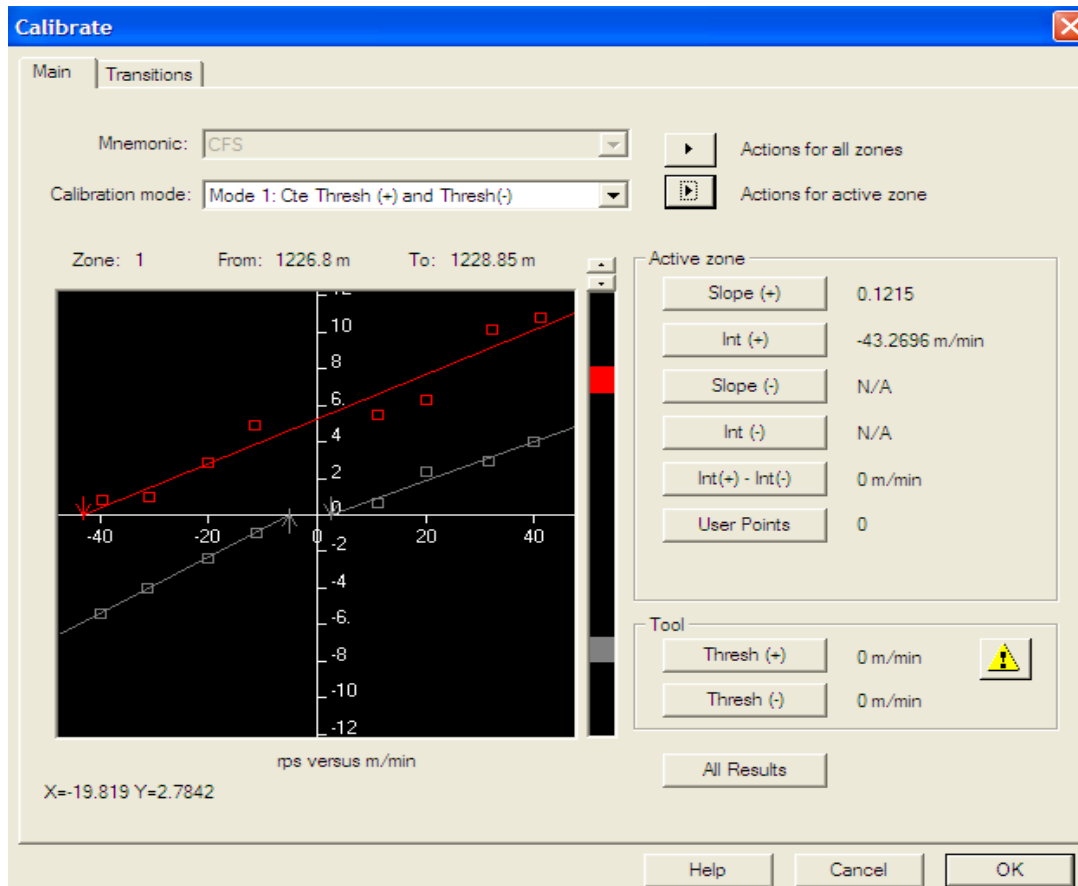

Figure 4.4(a): Calibration plot
- The calibration plot is displayed (Fig. 4.4(a)). Right click in the plot window and a zoom menu is available.